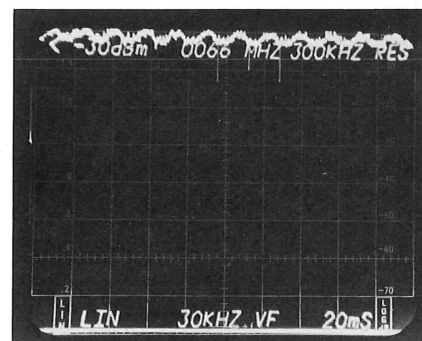

Figure 9-3. Measurement of hum with 7L14.
3. Digital storage capabilities of the Tektronix 7L14 makes the measurement of the hum component easy. During the vertical interval the television signal is largely unaffected by picture content. This interval also contains long, high power pulses that can be accentuated with a video filter. Set up the 7L14 analyzer as per steps 3, 4, and 5. Turn on digital storage. Position the cursor at the bottom of the screen. Turn on the video filter. Press MAX HOLD and wait until the display builds up. The result (figure 9-3) is the hum on that carrier.